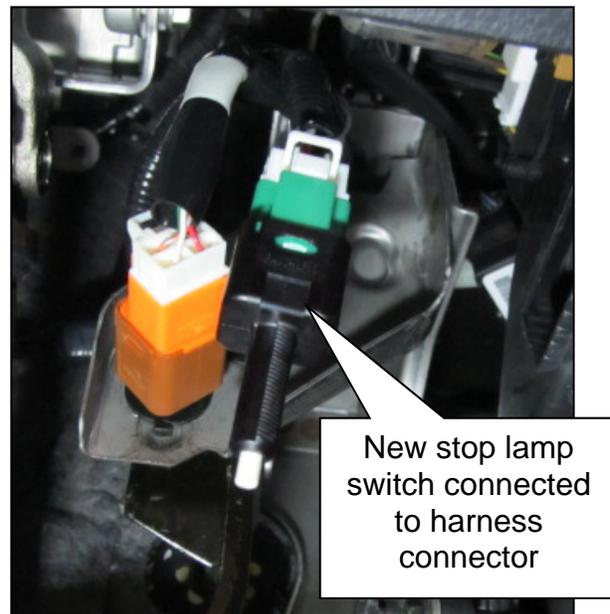

Figure 5
9. Connect the new stop lamp switch, from the **PARTS INFORMATION** table on page 10, to the harness connector (Figure 5).